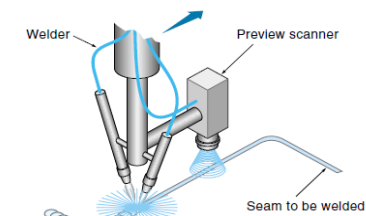

Figure 6.12 A welder using a preview sensor for PIP control.
- Many systems have this information available — either the entire path is stored in memory or the system is equipped with a preview sensor as illustrated in Figure 6.12 for a welding robot.